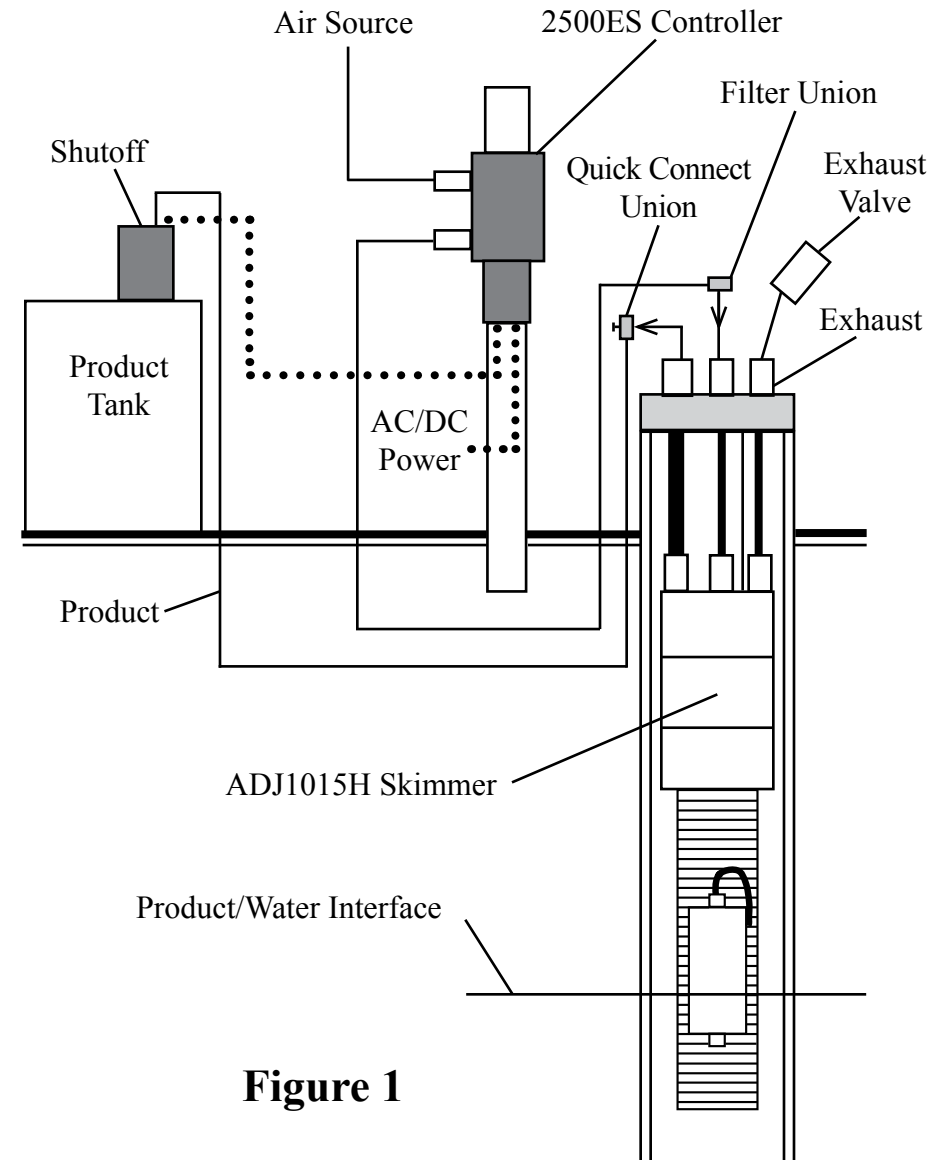
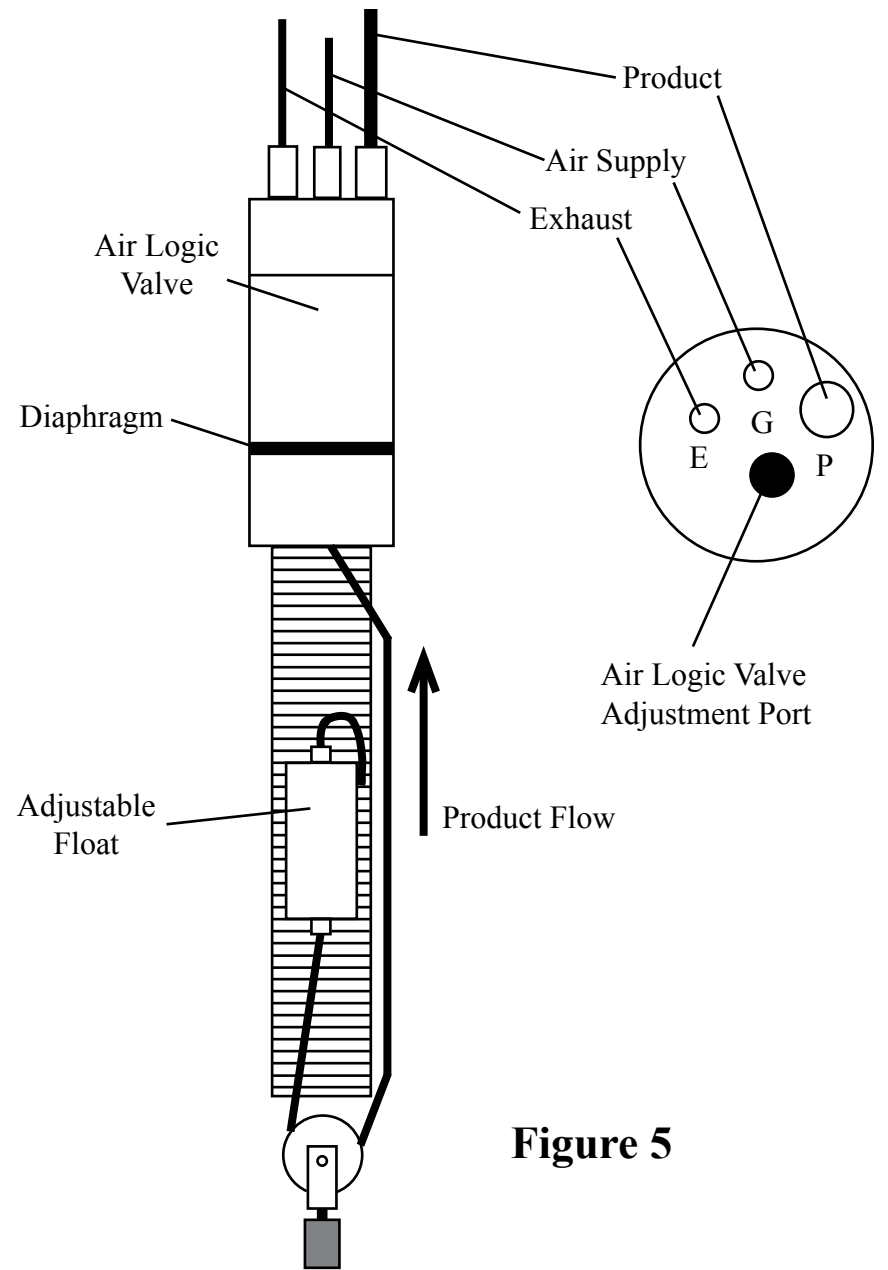

Figure 1
Figure 5
The system (Figures 1 and 2) relates to a heavy oil recovery system for wells four inches in diameter and larger. This system includes: an intrinsically safe ADJ1015H pneumatic Smart Skimmer, with an adjustable float (Figure 5), which removes heavy oil up to 200 feet deep; and a three function electronic Controller Model 2500ES that operates the skimmer intermittently, records run time, and has a high level tank shut-off assembly.
STEP 7. Position the skimmer and well cap on the ground near the well. **NOTE:** If the skimmer is over 60 feet deep, use a vented design skimmer. Cut a length of 3/8" OD air supply tubing to cover the distance from the top of the well down to water/product interface, plus 5 feet. Slide enough tubing through the well cap and attach the end of the tubing to the top of the skimmer tube fitting labeled "G" (Figure 5). If the product thickness is greater than 1 foot, position the center of the skimmer screen 1 foot below top of product. If the product thickness is less than 1 foot, position the center of the skimmer screen at the water/product interface.
STEP 8. Cut a length of 1/2" OD product tubing same length as the air supply line. Install 1/2" OD product tubing through the well cap tube fitting labeled "P" (Figure 5). Slide enough tubing through the well cap and attach the end of the tubing to the top of the skimmer tube fitting labeled "P". **CAUTION:** Do not kink the tubing.